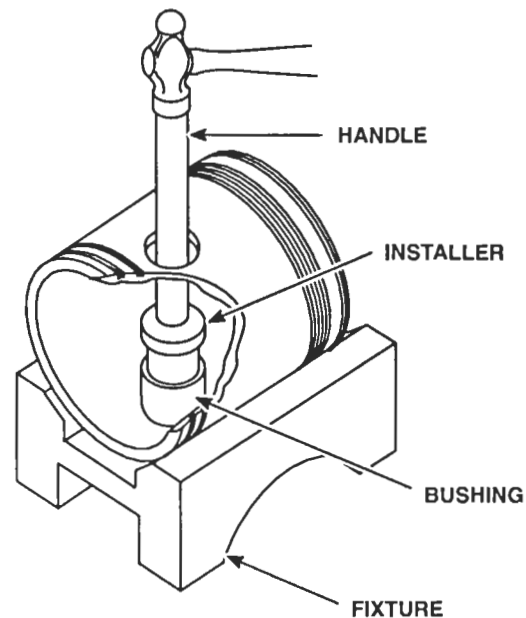

Figure 4. Removing or Installing Piston Pin Bushings in Piston
2. Drive each bushing from the piston with bushing remover J 1513-3 and handle J 1513-2 (Figure 4.)